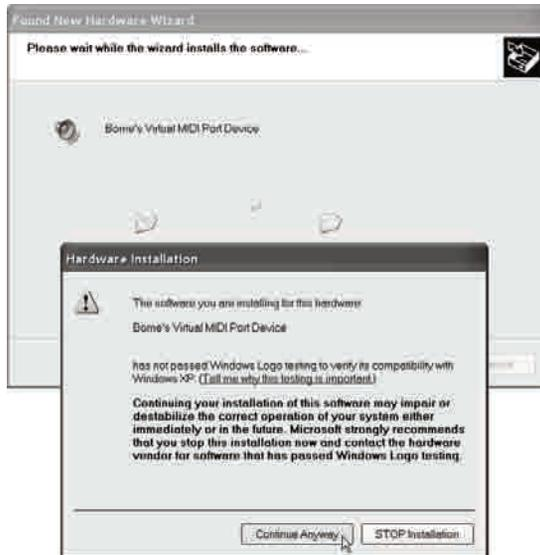

Figure 4.9
9. Click **Continue Anyway**. (Figure 4.9)